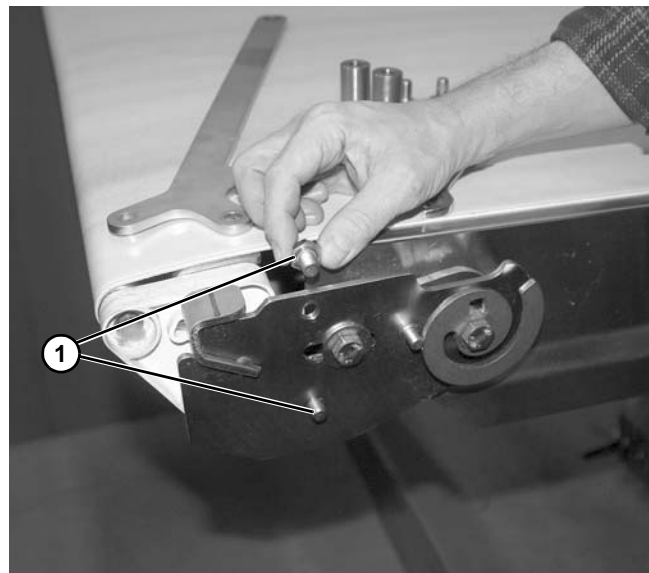

Figure 55
1. Install two screws (**Figure 55, item 1**) into tail plate.